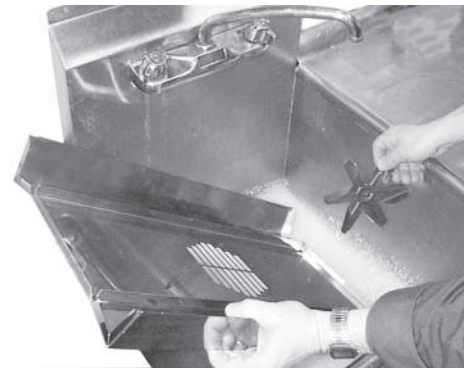

Fig. 41
- Wash vent-grate and fan blade in a sink with warm soapy water (Fig. 41).